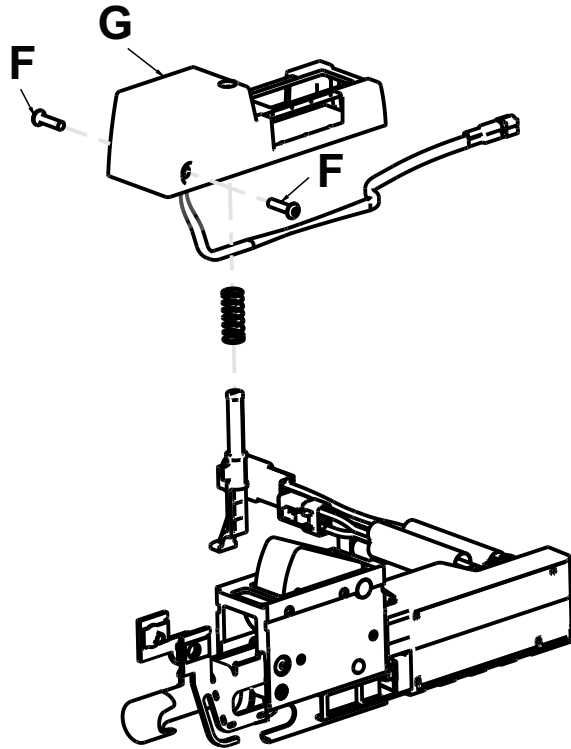

Figure 53 – Remove the anchor housing assembly
12. Using a 1/8" hex wrench, remove the two button head cap screws (F) that secure the anchor housing assembly head end to the anchor pawl assembly. Remove and discard the anchor housing assembly (G) (Figure 53). Save the screws.